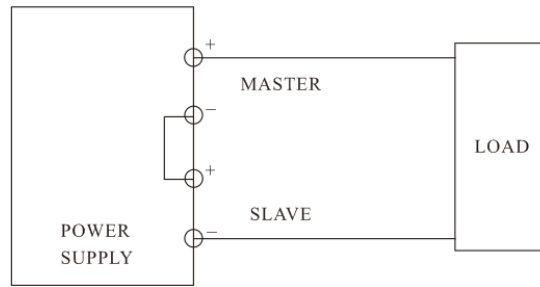

Fig.5-3 Single Supply
- E. If "single supply" operation is desired, this allows the power supply to be used as twice the voltage and rating current simply by using the negative (black) terminal of the SLAVE supply and the positive (red) terminal of the MASTER supply, the configuration as shown in Fig.5-3.